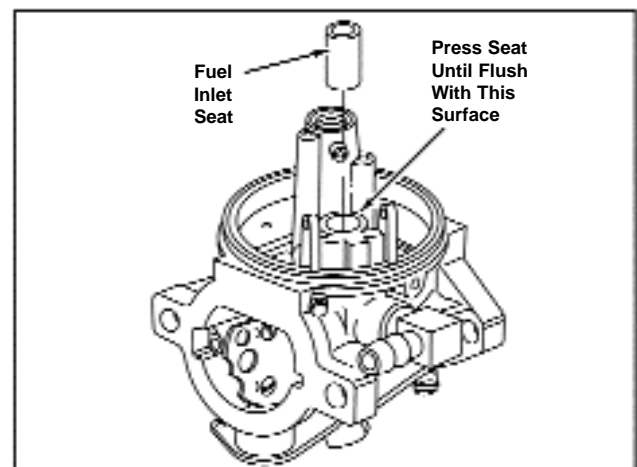

Figure 50 - Installing Fuel Inlet Seat
- Using a flat tipped object approximately 5/16" inch diameter, press fuel inlet seat into carburetor body until flush with fuel inlet boss. See Figure 50.